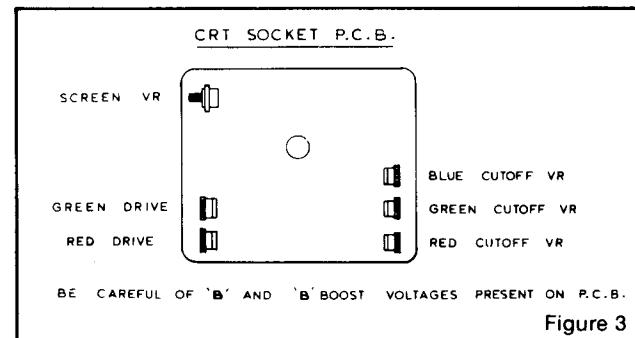

Figure 3
4.6 CRT cut off controls (See fig. 3)
4.7 Screen control (G2) R124 (See fig. 3)
4.8 Video drive controls (See fig. 3)
- 1.5 Turn off the green and blue fields and adjust setup controls to produce a red field. (See fig. 3)
Refer to figure 3. Do the following in subdued light: